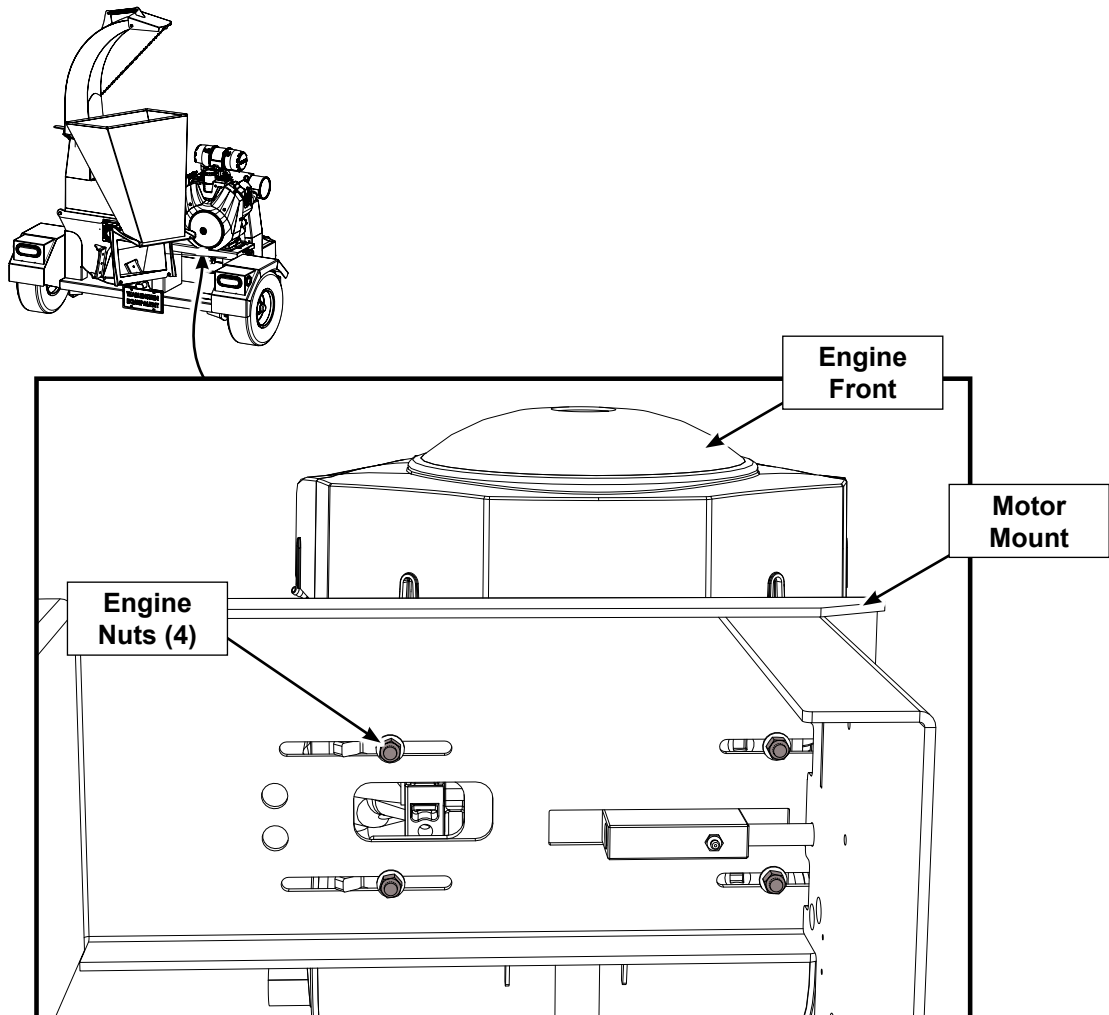

Fig. 23—BOTTOM VIEW OF MOTOR MOUNT
4. If the belt requires adjustment, lift and secure the hopper, loosen (do not remove) the 4 x bolts that hold the engine mount to the main frame, (access from the front of the motor, under the motor mount: see fig 23).